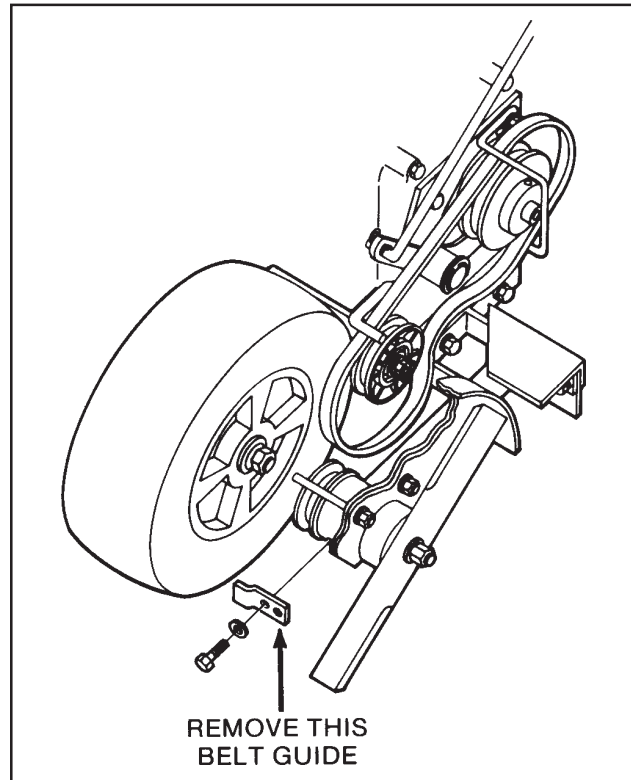

Figure 8, Belt Replacement
1. Remove the flat bar belt guide at the front of the spindle boom assembly (See Figure 8).